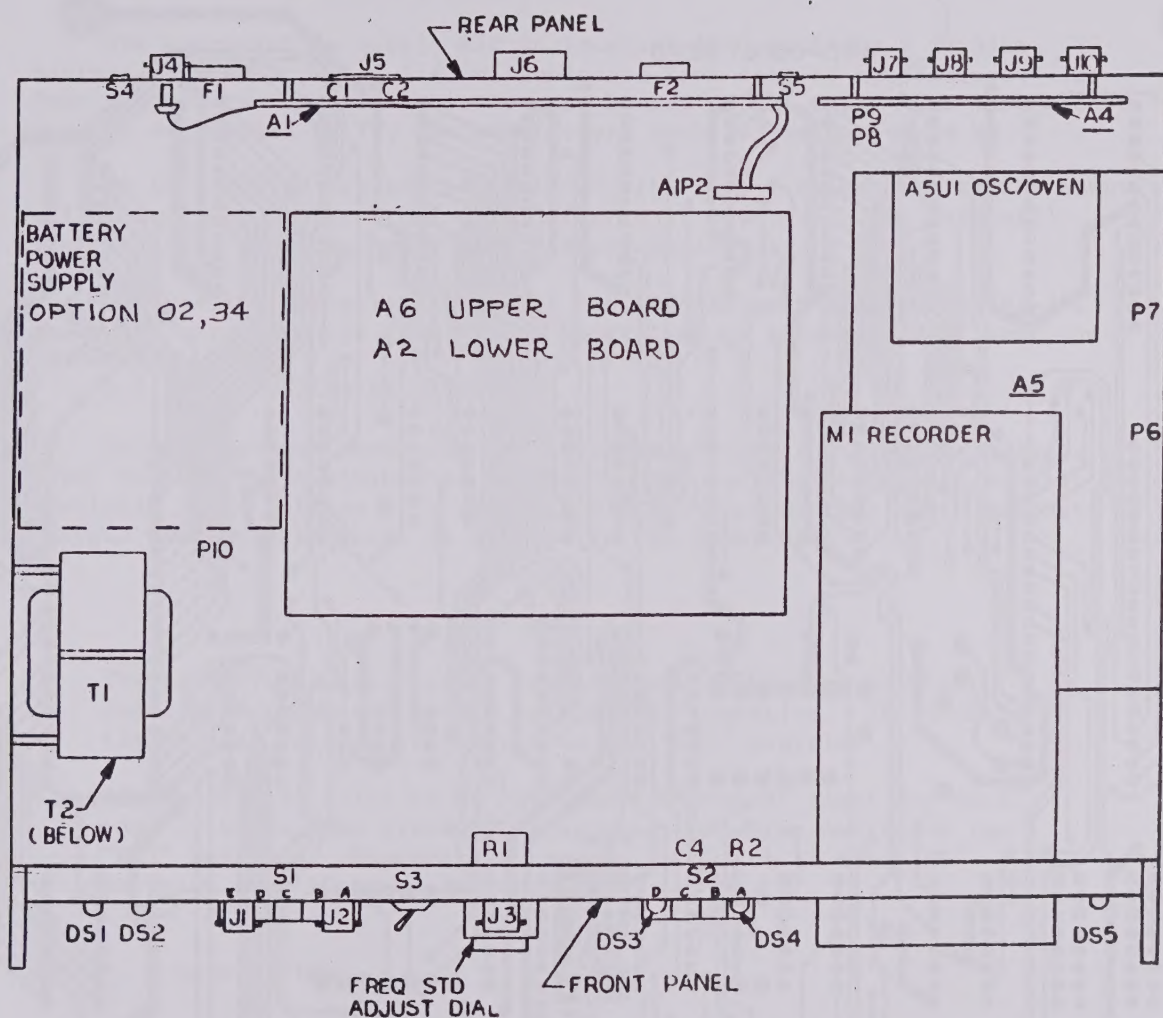

FIGURE 2-1
4. Using the (4) four 6-32 screws provided, mount the battery pack in the empty space at the rear of the Model 8164, against the left side casting. Position the battery pack so the yellow marker dot is facing up. Review Figure 2-1. Secure the battery pack using the flathead screw in the countersunk hole in the casting (upper rear hole), and the panhead screws and lockwashers from the other three clearance holes provided in the casting.